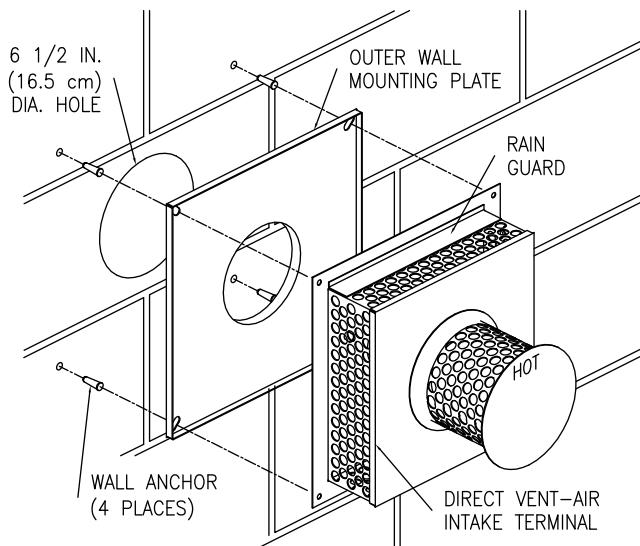

Figure 4
3. Cut a 6-1/2 inch (*16.5 cm*) diameter minimum clearance hole in the wall at the point where the vent-air intake tubes will pass through the outside wall and connect with the direct vent-air intake terminal (See Figure 4).
4. From outside the building, position the outer wall mount plate and direct vent-air intake terminal over the center of the opening. Mark the mounting screw hole locations. With a 3/16 inch (*4.5 mm*) diameter drill bit (not supplied), drill holes for the wall anchors (supplied). Install the wall anchors but **DO NOT** affix the outer wall mount plate and direct vent-air intake terminal to the wall at this time (See Figure 4). Note: Certain construction of walls may require the use of a different type of wall anchoring means than supplied. **DO NOT** modify the direct vent-air intake terminal or outer wall mount plate.